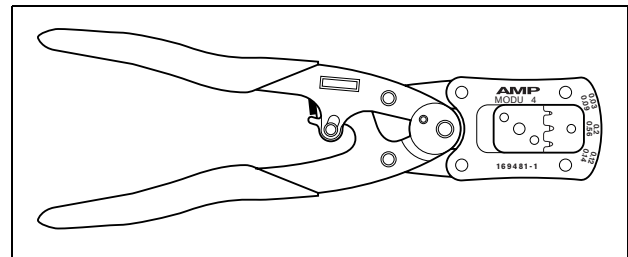

figure 19.11: Tyco AMP Modu 4 169481-1 pliers
- Tyco AMP Modu 4 169481-1 pliers (see figure 19.11)